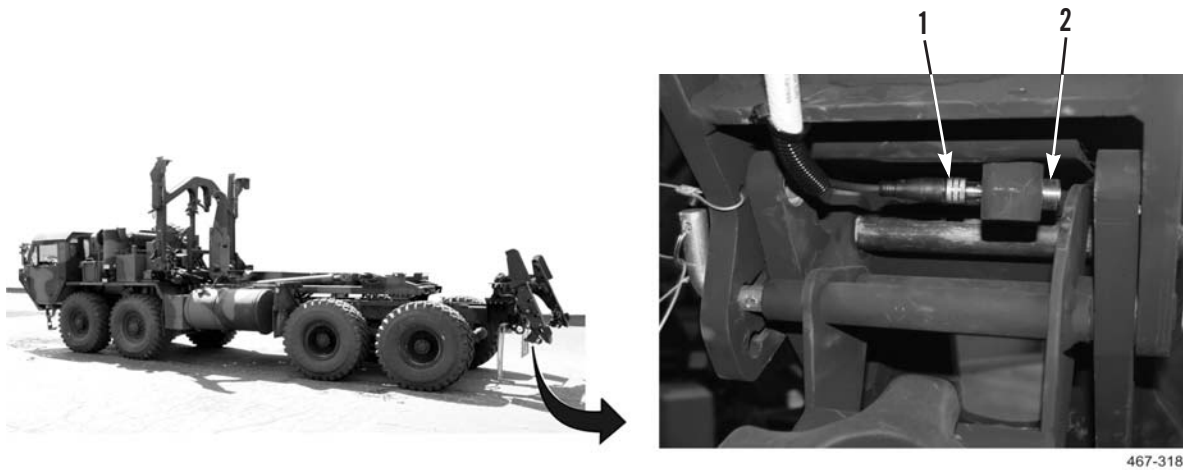

Figure 28. Twistlock Sensor Installation.
2. Connect twistlock sensor harness (Figure 28, Item 1) to twistlock sensor (Figure 28, Item 2).